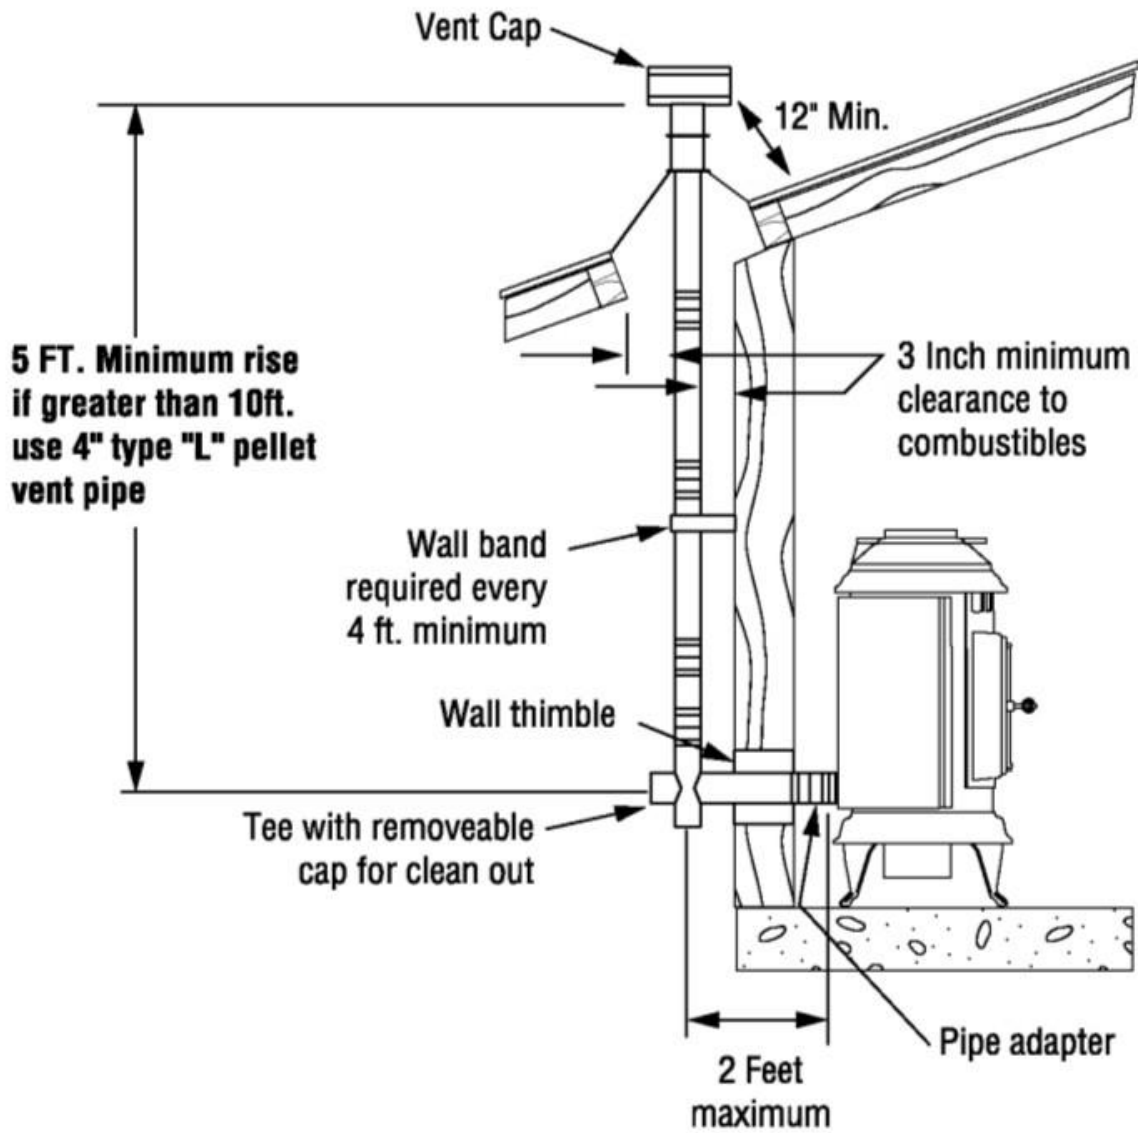

FIGURE 7
- a. **ALL VERTICAL RUNS REQUIRE 4" TYPE L PIPE (FIGURE 7 and 8).**